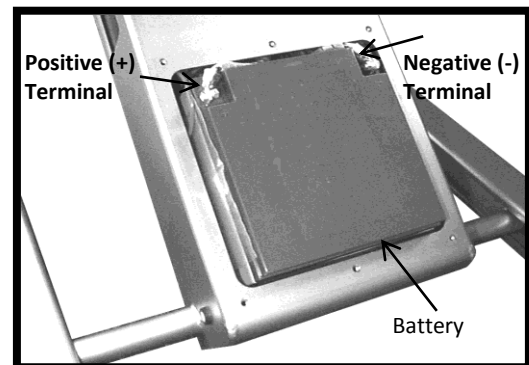

Figure 15: Battery with cover removed
4. With a 5/16 in. wrench and a Phillips screwdriver, remove the red and black (with red marker) wires from the positive terminal (Figure 15).